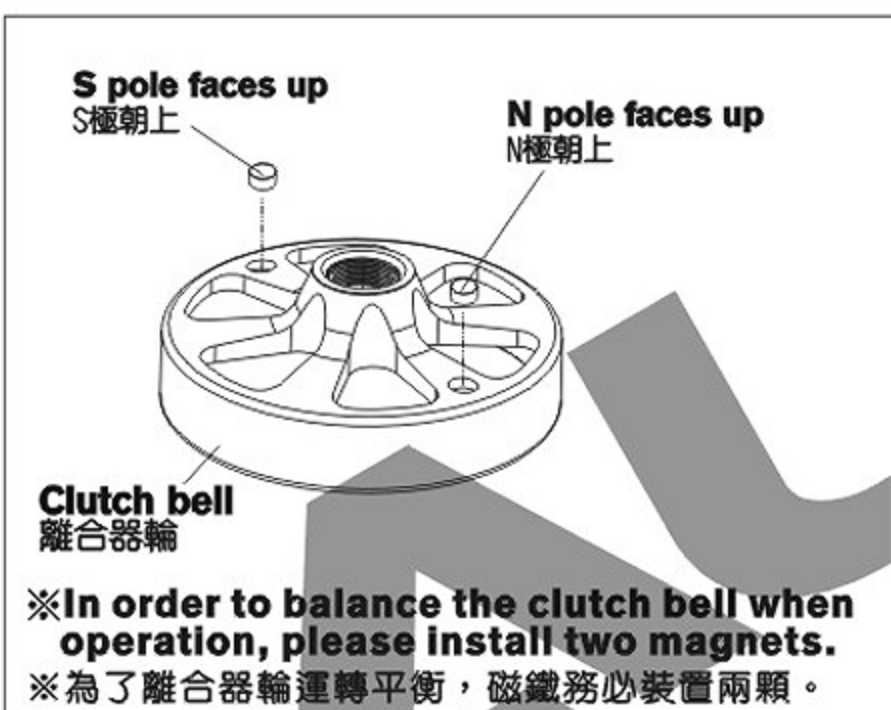

Fig. 1
1. See Fig. 1, first install two magnets on the mounting hole of the Clutch bell with CA glue or R48 glue, the north pole of one magnet (mark N) faces up and the north pole of the other magnet faces down.